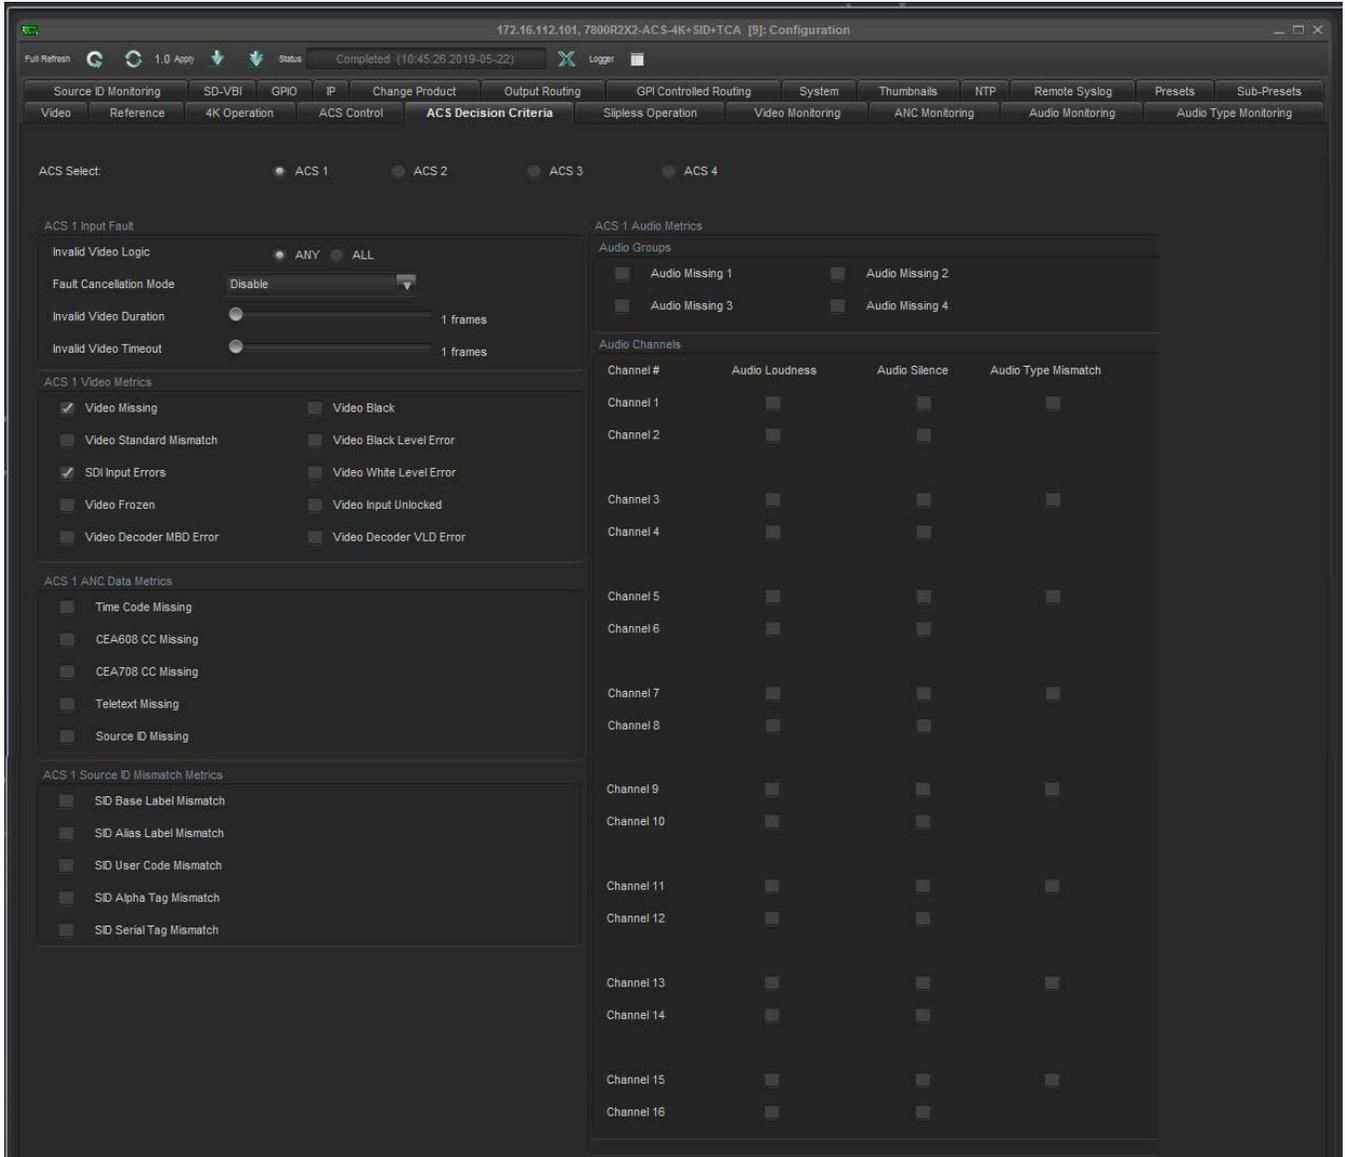

Figure 5-18 : VistaLINK[®] PRO - ACS Decision Criteria Section\8X8-Single-Link Mode
- Selecting 8X8 Single-Link allows each of the four ACS Processor to be independently controlled. (See Figure 5-18) In this mode the user must configure the decision criteria for each ACS Processor. The radio buttons at the top of this section determine which ACS Processor's criteria is being controlled.
- Selecting 2X2 Quad-Link simplifies the interface to a single list of ACS Decision Criteria. (See Figure 5-18) The AVM monitoring is performed for each Link and the Quad Link properties specified in the *4K Operation* section are used to determine which Criteria to apply to each Link. (See Section 5.3.2)